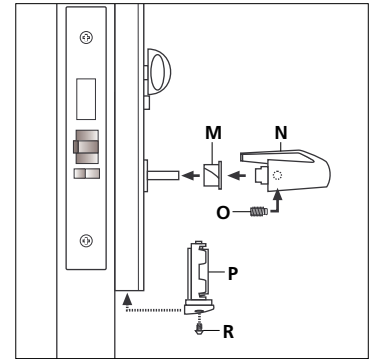

Figure 14
- 10) Install the nylon bearing (M). Secure inside lever (N) with the set screw (O) tighten the screw to 40 inch pounds or 4.5 Nm. Insert the battery holder assembly (P) into the housing and secure it with the 6-32 X 1/4" hex socket cap screw (R) (see Figure 14). When you connect the batteries, you should hear the motor run for a short period of time. If you do not, replace the batteries. Anytime the battery is disconnected from the lock, a 3 second pause is required before reconnection. If the lock motor runs constantly, disconnect and then reconnect the battery (do not forget the 3 second pause). If the lock motor runs constantly after the battery is reconnected, replace the lock.